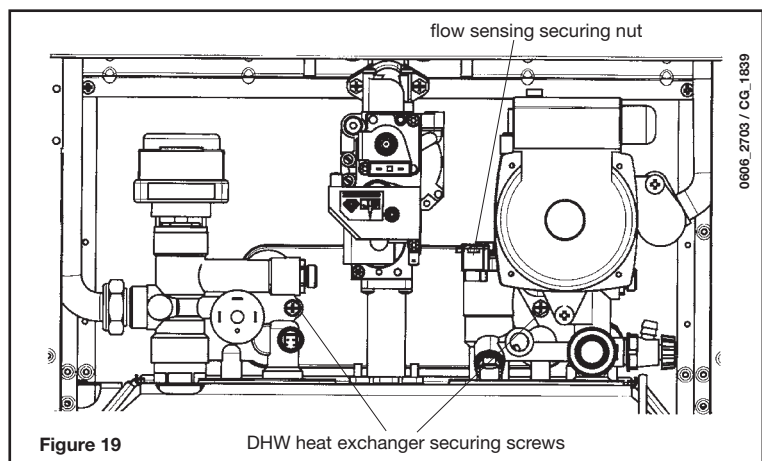

Figure 19 DHW heat exchanger securing screws
- 2) connect the 3-way valve motor wires (white-red-black) as shown in figure 19;
- remove the two screws (right in front of you) securing the DHW heat exchanger and pull it off its seat (figure 19).
- unscrew the nut on the flow sensing assembly (Figure 19);